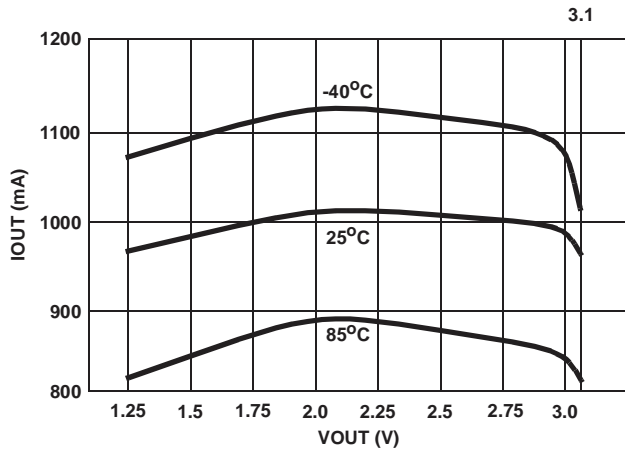
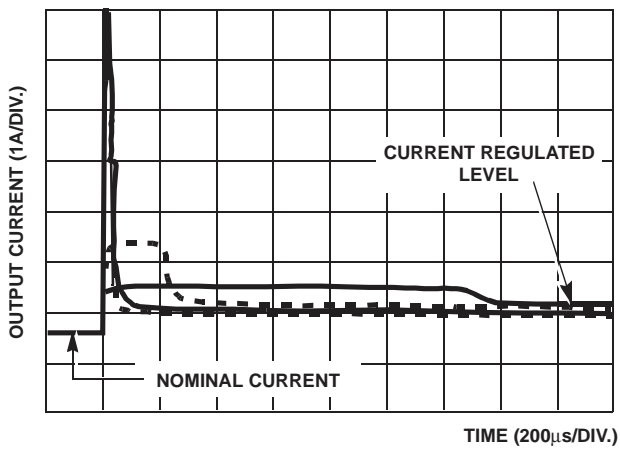
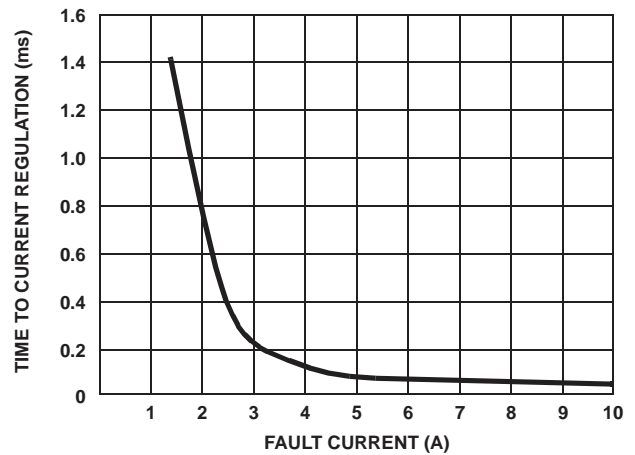

FIGURE 4. CURRENT REGULATION vs VOUT ( $V_{IN} = 3.3V$ )
FIGURE 6. OC TO CR SETTLING TIME WAVEFORMS
FIGURE 7. CR SETTLING TIME vs FAULT CURRENT
The ISL6436 has integrated current sensing on the power MOSFET that allows for rapid control of OC events. Once an OC is detected the ISL6436 goes into its current regulation (CR) control mode. The ISL6436 CR level is set to a nominal 1A. This current regulation is  $\pm 25\%$  over the full operating temperature and voltage bias range. See Figures 4 and 5 for illustrative curves. The speed of this control is inversely related to the magnitude of the OC fault. Thus a hard over current is more quickly controlled than a marginal OC condition. See Figure 6 for waveforms illustrating this and Figure 7 for an accompanying graph.